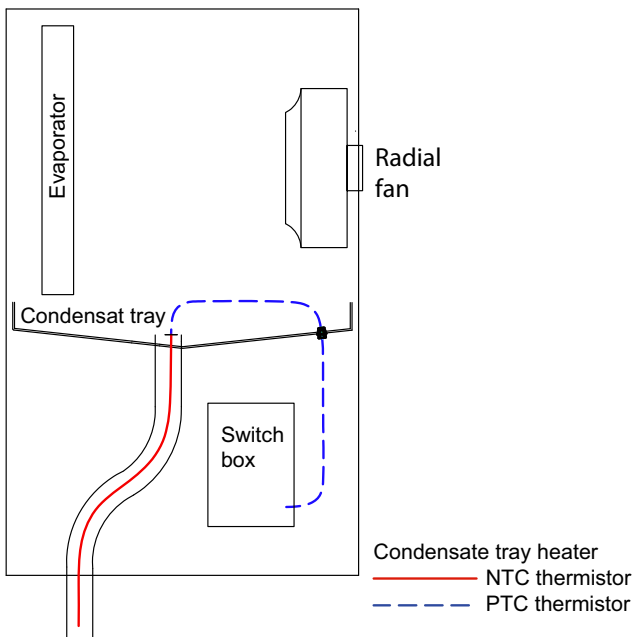

Fig. 1.9:
- 2) Install the supplied condensate drain heater (see Fig.1.9 on pag. 3)